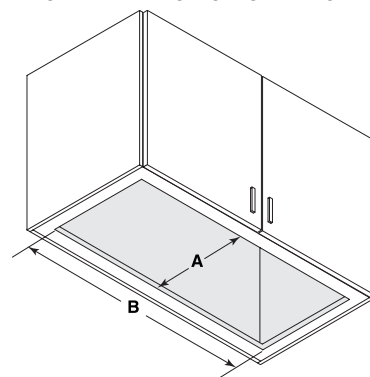

FIG. 9
1. Cut a hole in the bottom of the cabinet, using the dimensions shown (FIG. 9), or use the optional liner as a template.